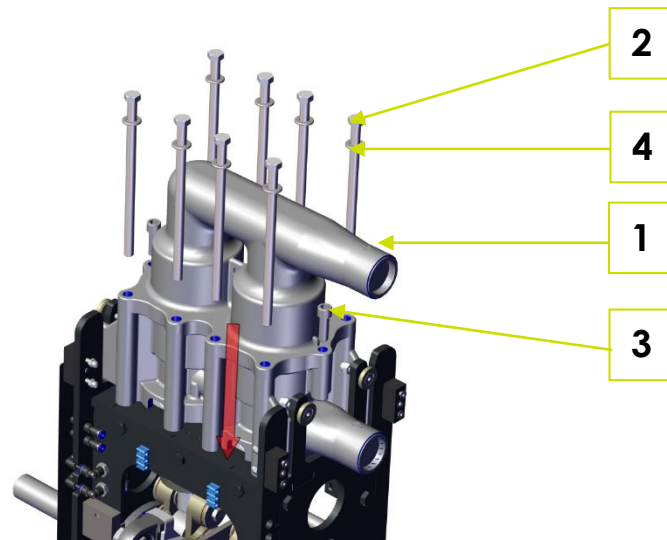

Fig. 5-3: Mounting the cylinder cover
1. Clean the cylinder cover (1) and fit it back on the cylinder block (Fig. 5-3: Mounting the cylinder cover).
2. Align the cylinder cover and hand-tighten the two fillister head screws (3) greased with assembly grease (Renolit Unitemp 2).
3. Apply product-strength threadlocker (Weicon Lock AN302-43) to all eight hexagon screws (2) with washers (4) and tighten hand tight.